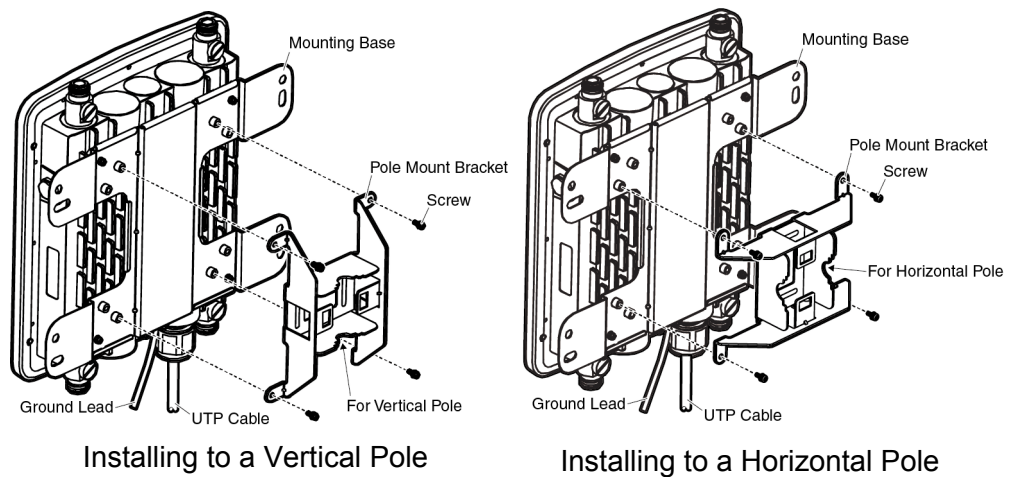

Figure 19. Attaching the Pole-Mount Bracket to the Mounting Base
3. Orient the pole-mount bracket for installing to either a vertical pole or a horizontal pole. See Figure 19.